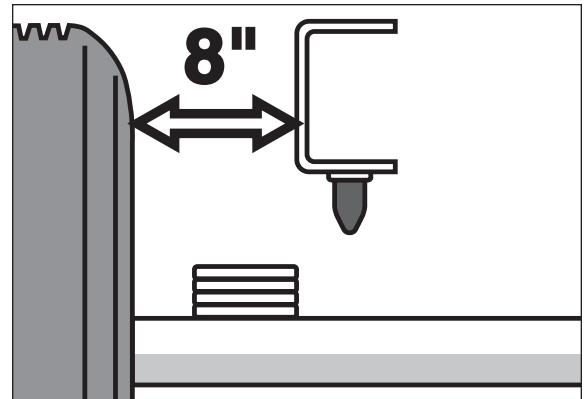

Figure 4
3. Measure the distance between the frame and the tire. This kit requires a minimum of 8” of clearance for a fully inflated air spring (Figure 4).